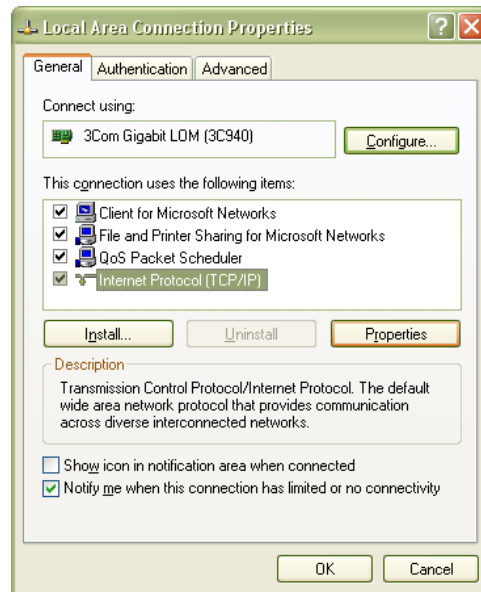

FIGURE 8-2: LOCAL AREA CONNECTION PROPERTIES DIALOG BOX
- 4) Select **Internet Protocol (TCP/IP)**, then click the **Properties** button as shown in Figure 8-2.